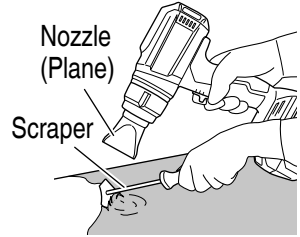

Fig. 15
1. Peeling off paint (Fig. 15)